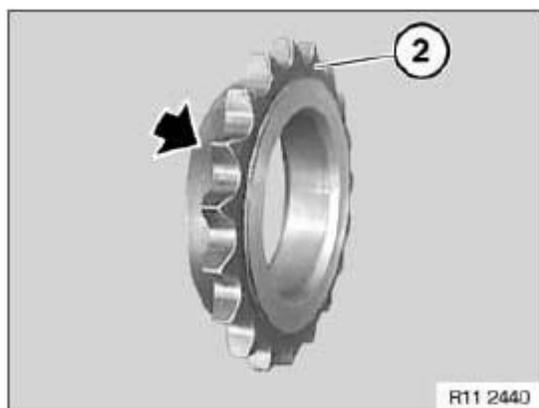

Fig. 194: Identifying Collar On Sprocket Wheel
Collar (see arrow in Fig. 194) on sprocket wheel (2) points to crankshaft.